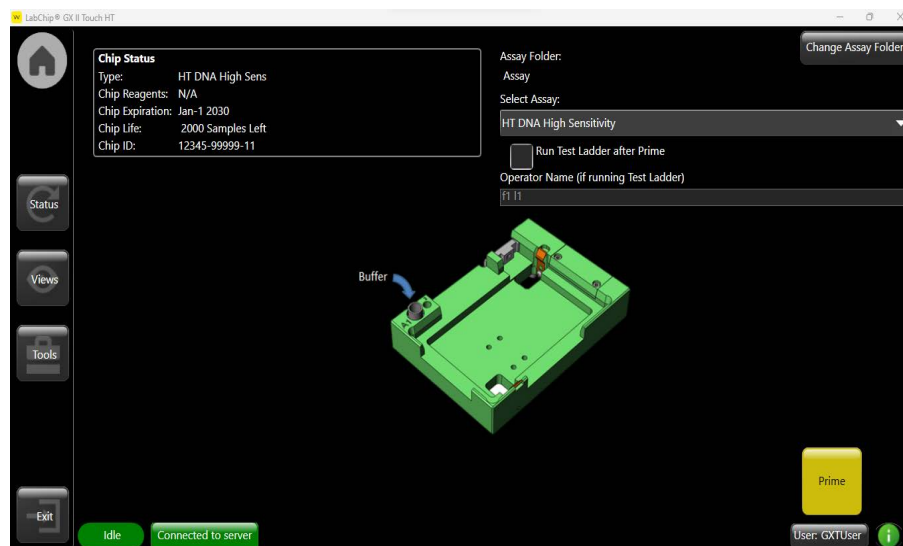

Figure 10. Chip priming screen.
- 1 Touch the *Run* button (see Figure 10).